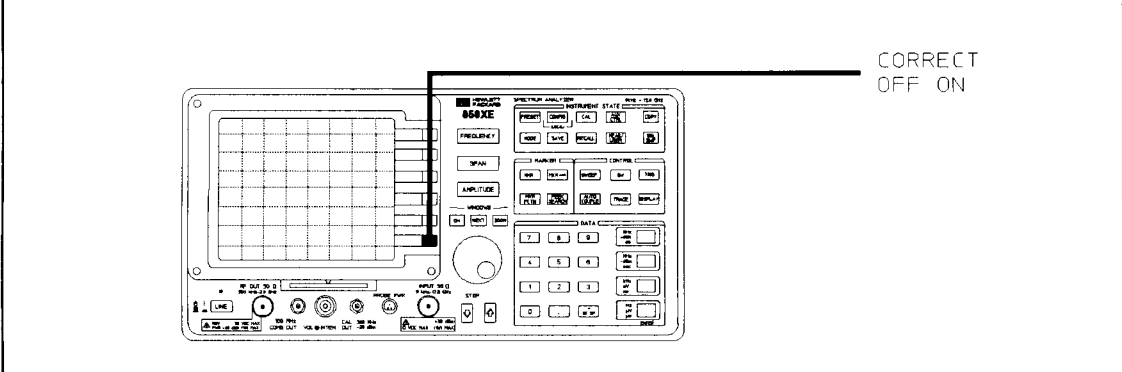

**Figure 3-3. Connections for End To End Calibration**
- 1 Connect the Group Delay transmitter directly to the Group Delay receiver, See Figure 3-3